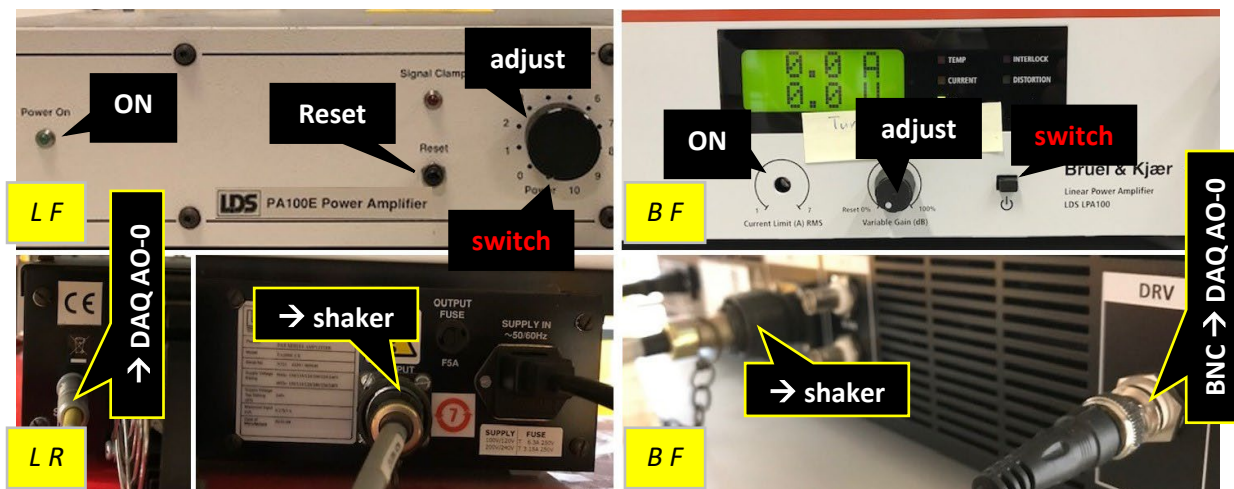

Fig. 2. Power Amplifiers of an LDS (LF) Front, (LR) Rear, or a B&K (BF) Front and (BR) Rear panels
5. If the "LDS PA1000E Power Amplifier" is used, press the 'Reset' button on the front panel, as shown in Figure 2-LF.